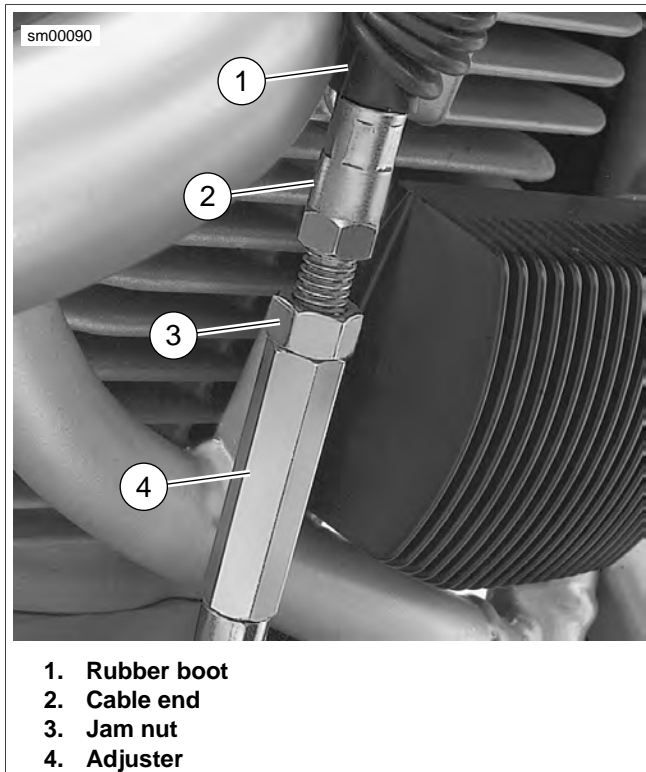

Figure 1-27. Clutch Cable Adjuster Mechanism
2. See Figure 1-27. Slide rubber boot (1) upward to expose adjuster mechanism. Loosen jam nut (3) from adjuster (4). Turn adjuster to shorten cable housing until there is a large amount of free play at clutch hand lever.
- b. See Figure 1-27. Set free play by turning adjuster (4).
- c. Tighten jam nut (3) against adjuster (4).
- d. Slide boot (1) over cable adjuster mechanism.